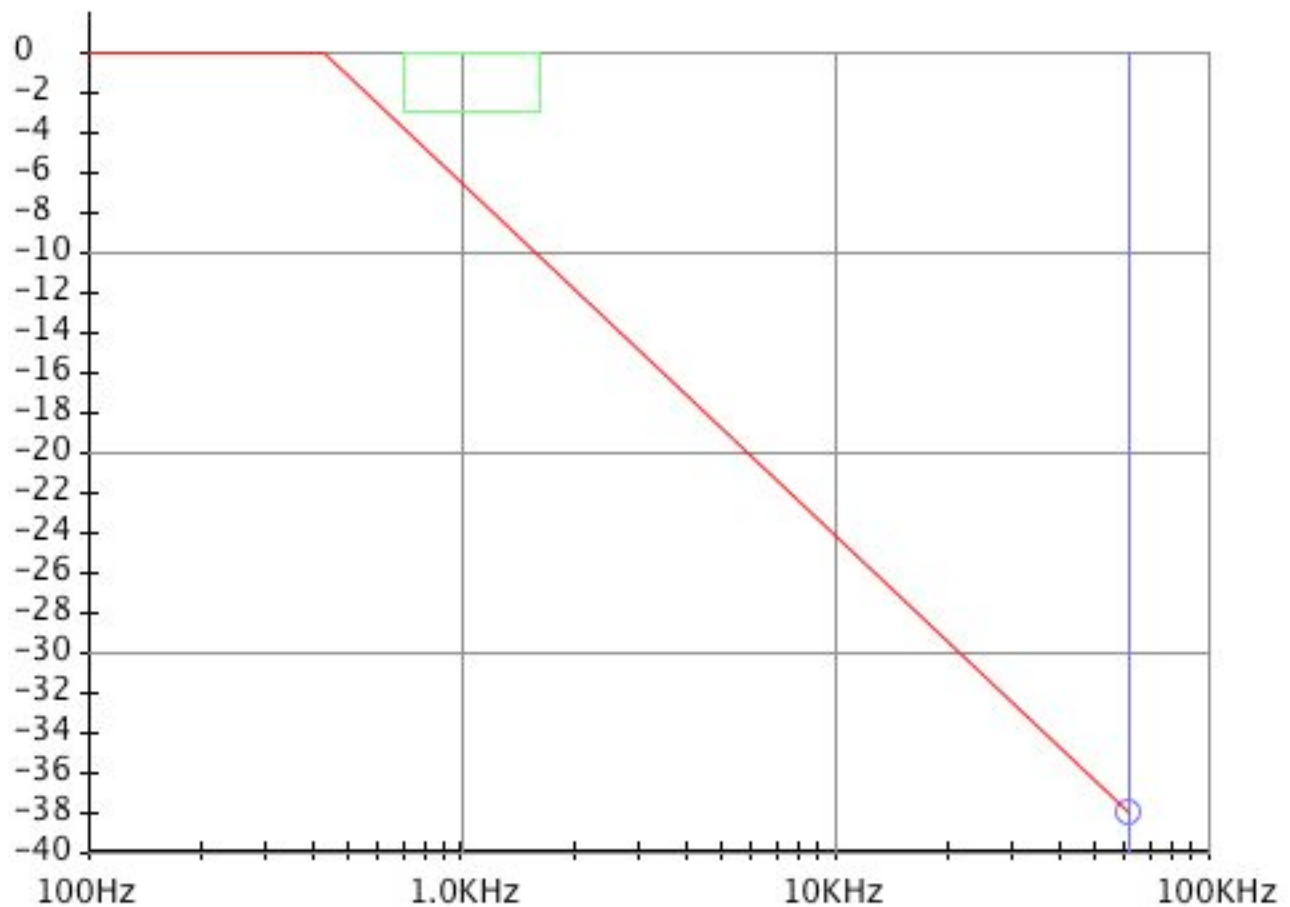

Figure 14 - Graph with one-pole filter response
5. Check for first order filter fit. Draw a line with a slope of 20db per decade through the required attenuation point, sloping upward to the left. This line will cross the 0db line at the frequency $A \cdot F_{pwm}$ (where A is a decimal number, not decibels). In the example case, this frequency will be $0.0126 \cdot 32\text{KHz} = 430\text{Hz}$. Then, continue this line along the 0db line down to the minimum frequency. The result for this example is shown in Figure 14.